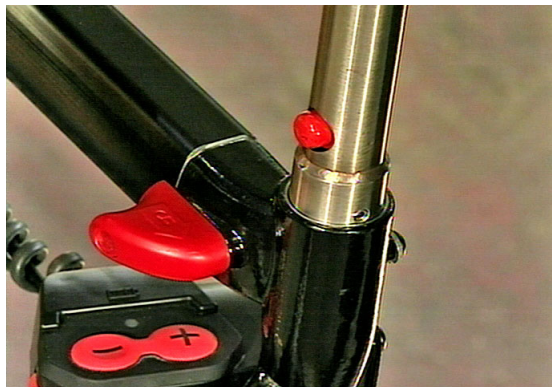

Figure 38 - Installed Push Bar
2. Push down until each locking mechanism is fully engaged (see Figure 38).